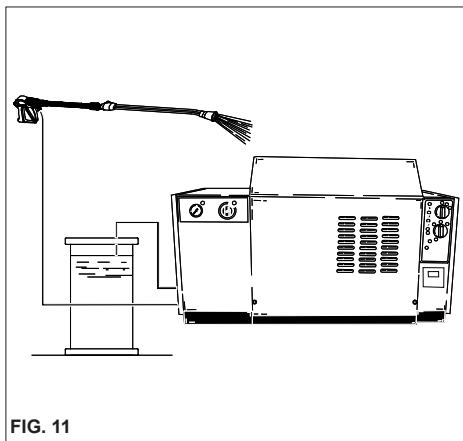

FIG. 11
- 3) After detergent has been used, rinse the suction circuit: place the detergent suction hose (fig. 11) in a container of clean water and operate the pump for 1 minute with the dispensing valve fully open.
- 4) After detergent has been used, rinse the suction circuit: place the detergent suction hose (fig. 11) in a container of clean water and operate the pump for 1 minute with the dispensing valve fully open and the trigger of the lance in the delivery position.